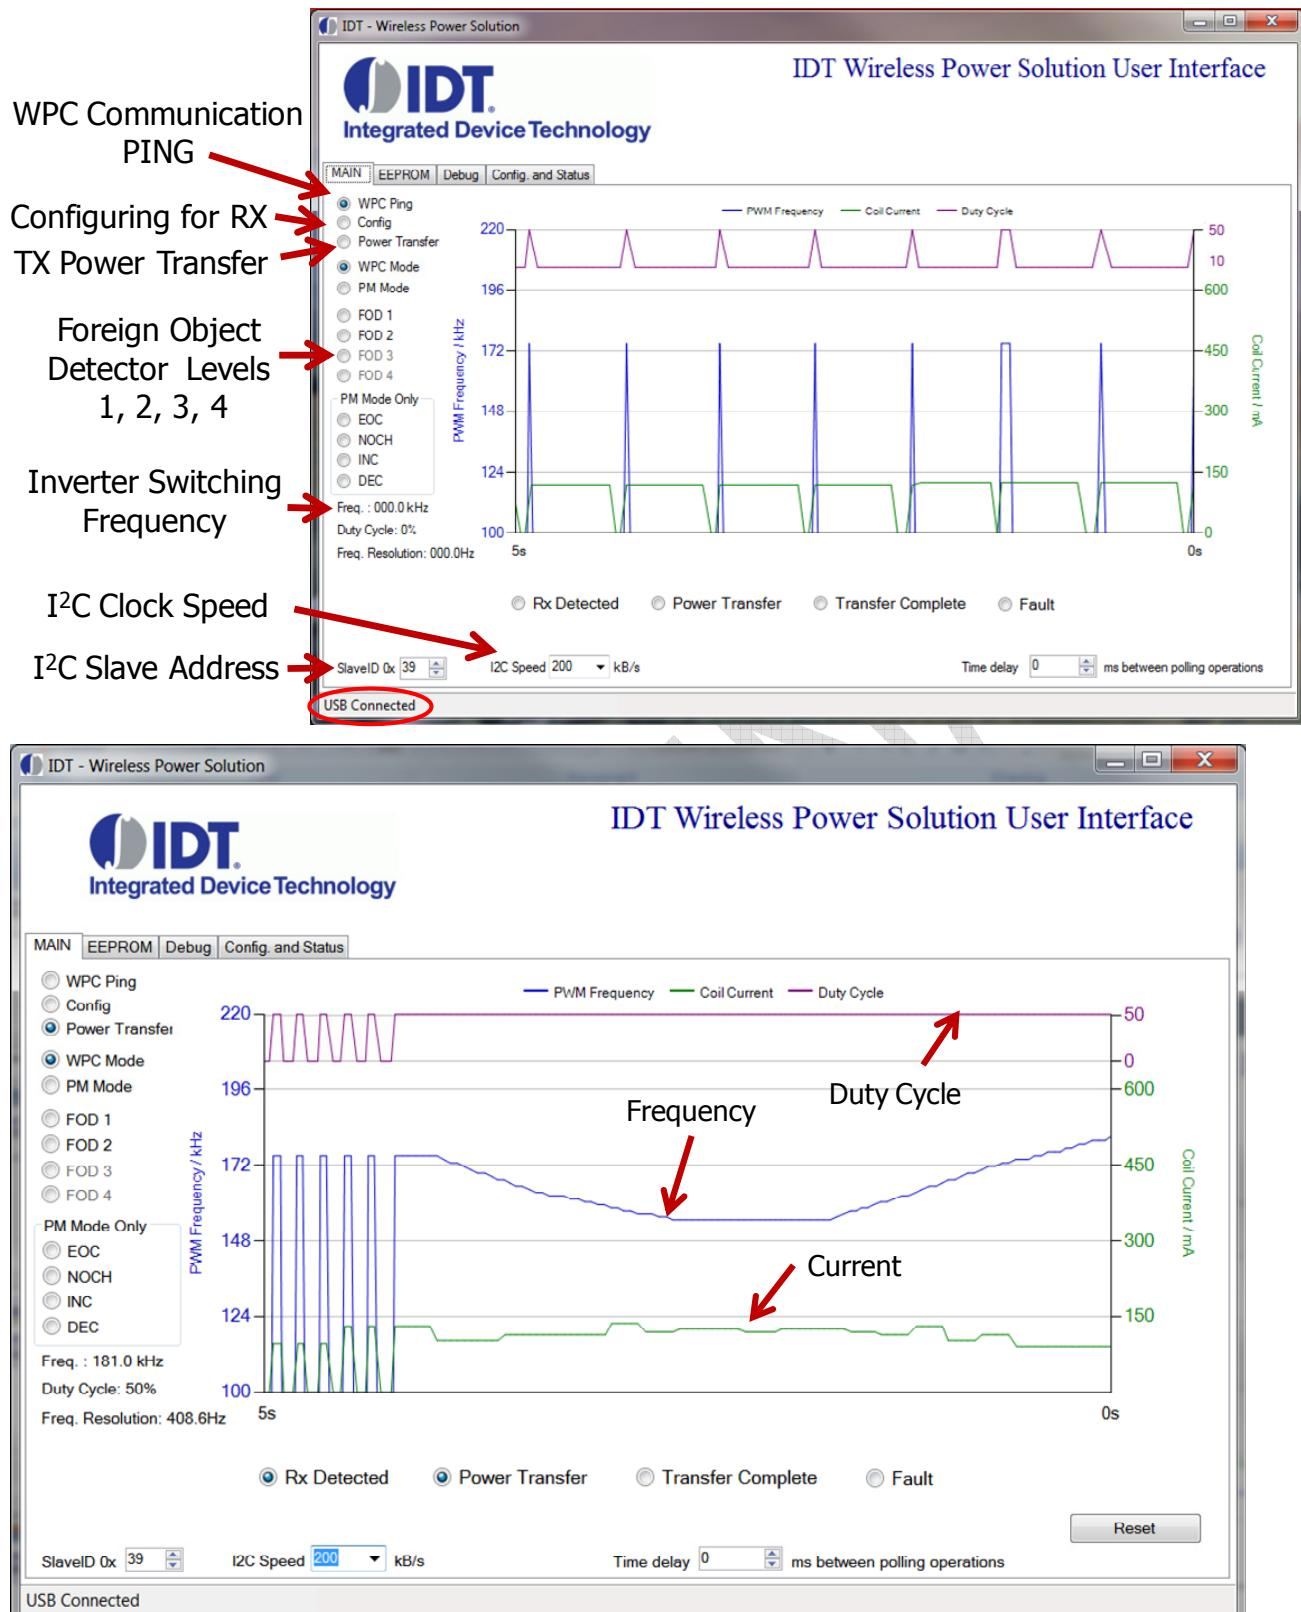

Figure 4. Windows GUI MAIN Tab Details and Signals.
8. Observe the different real time signals propagating on the “MAIN” tab of the GUI (Figure 4).
9. Add a 5W load to the to the RX device or IDTP9020 RX demo board and observe the current increasing and frequency change (Figure 4)
You can verify that the IDTP9030 is properly connected to your computer and able to communicate to the evaluation board by looking at the lower left of Figure 4. It should state “USB Connected”. Otherwise it will state in Red letters: “**USB Disconnected – Check Connection**”.
- 2) Placing different objects and loads onto the coil will change the real time signals, and it will change the location of the Blue dot at the left side of the GUI’s MAIN tab (Figure 4). For example, when the system is first turned-on, and without a load on the coil, the Blue dot will flash, i.e., “ping”, at the WPC Ping text location, at the very top left hand side of GUI. Then, when a load is placed on the coil, the flashing Blue dot at WPC Ping will cease and a solid Blue dot will appear at the Power Transfer Line text location on the left hand side of the GUI. Also, it should be noted that the blue LED will be lit on the eval board. Note, however, that if the load is not perfectly centered on the coil, the blue dot on the eval board will not be lit. In this case, readjust the load to make sure it is very well centered. Also, once the RX has established good communication with the evaluation board, both the RXDET and PWR XFR LEDs should be glowing on the eval board, and this should correspond with the Rx Detected and Power Transfer “non flashing” solid Blue dots located just below the real time signals on the MAIN tab of the GUI.